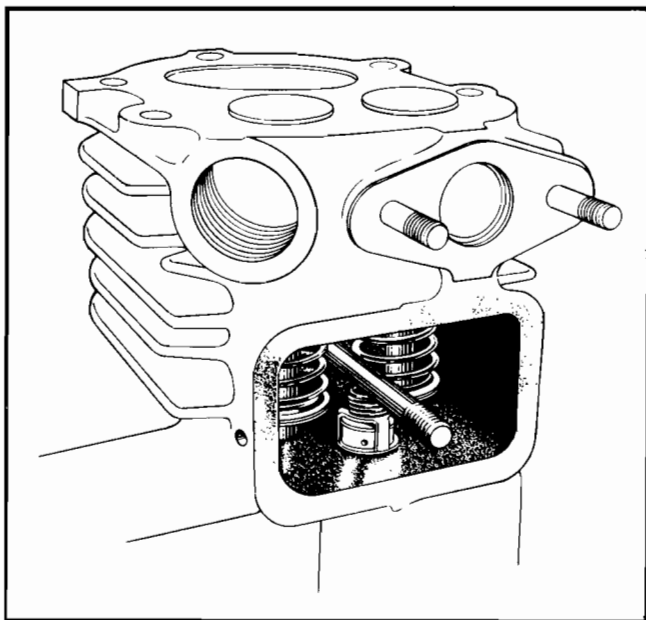

Figure No. 45—Breather Assembly—Horizontal Shaft
- a. Positive crankcase pressure is a characteristic of high speed, single cylinder, four cycle engines. Clinton Engines incorporate a valve-type breather assembly (See Figures No. 45, 47) in the crankcase ventilation system to compensate for this pressure. Breather action maintains the proper amount of vacuum in the crankcase at all times. This assembly should be inspected each time the engine is serviced. (See Breather Tube, Page 29.)